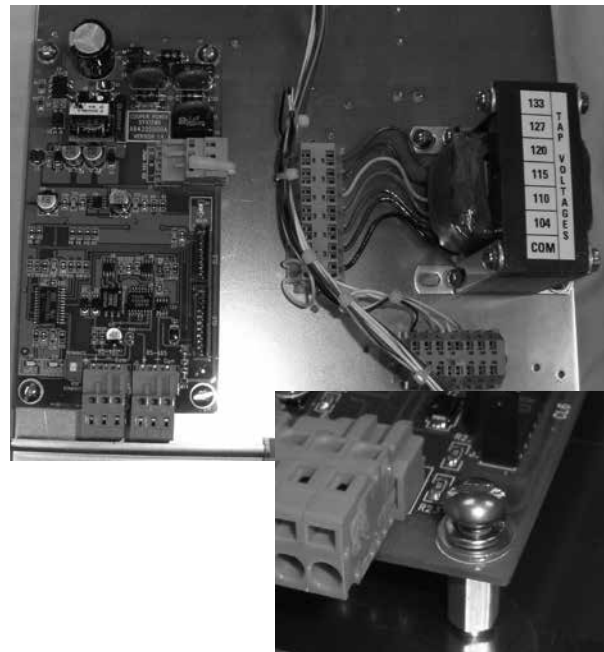

Figure 11. Module mounted on control box back panel
- Using the screws (Item 10), brass washers (Item 13), and lock washers (Item 12), mount the communications module (Item 1) to the stand-off studs. The brass washer is placed directly on the communications module; the lock washer is placed between the brass washer and the screw. See Figure 11.